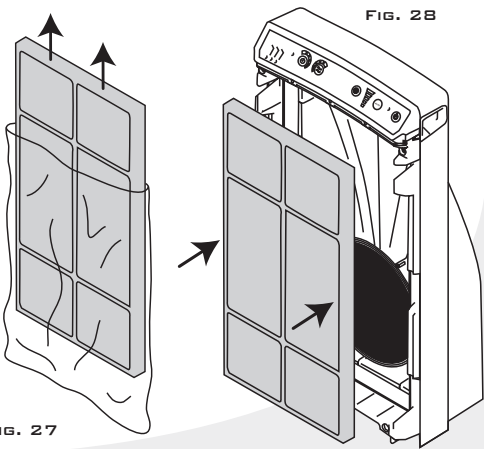

FIG. 27
6. **Remove** the new Odor filter from its plastic bag (Fig. 27).